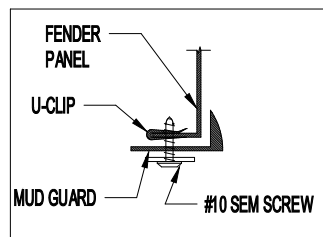

Figure 3
2. Install U-clips at location A and B over the existing hole in the fender (Figure 3).